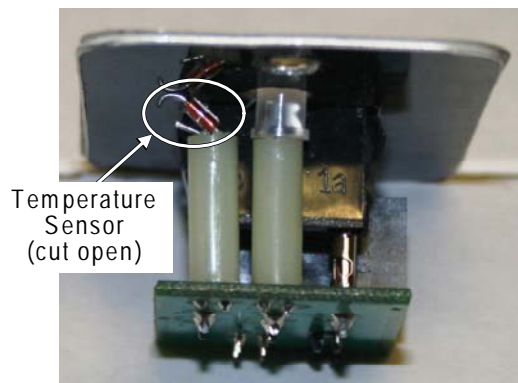

Figure 4, Sensor Cut Open
2. Use a pair of small wire cutters to clip open one side the temperature sensor (see Figure 4). Ensure the cut ends are not able to touch.